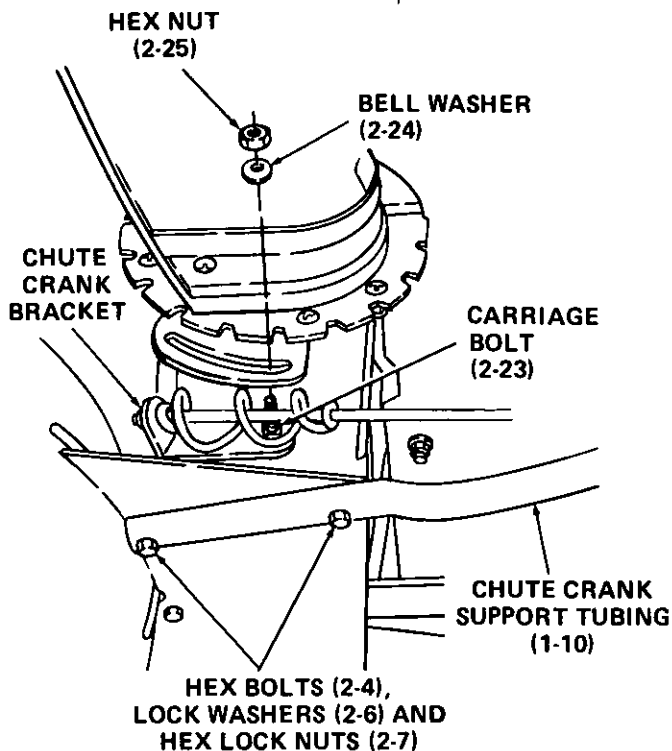

Figure 38
- a. Position chute crank with support tubing as shown in Figure 38, and secure with hex bolts (2-4), lock washers (2-6) and hex lock nuts (2-7).
- b. Attach chute crank bracket to extension on left side of chute opening. Bracket goes beneath extension as shown in Figure 38. Secure with carriage bolts (2-23), bell washers (2-24) and hex nuts (2-25). Do not tighten hardware at this time.